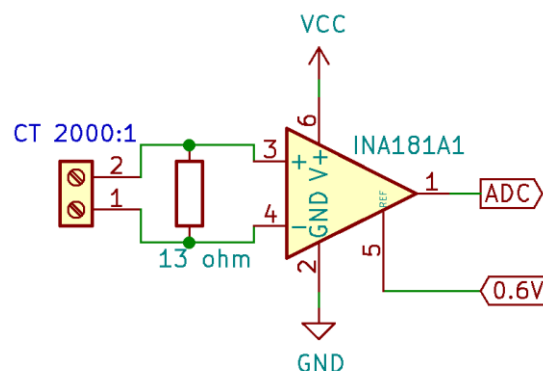

Figure 5: An example of a residual current detection circuit.
Suppose we want to turn off our load at channel 0 if the residual current is larger than 30 mA and have the circuit like Figure 5. The ratio of the current transformer (CT) is 2000:1, the resistor is 13 ohms, the gain factor of the op-amp is 20, and the ADC pin is 1. The command should be: